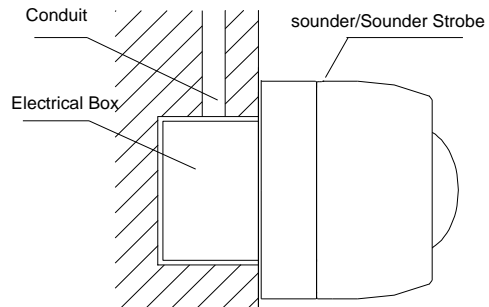

Fig. 3
- ✧ When the sounder/sounder strobe is surface mounted, it should be placed 0.2m from the ceiling for normal space height. When conduit is embedded, the base can be mounted on the electrical box. Its mounting method is shown in Fig. 3.